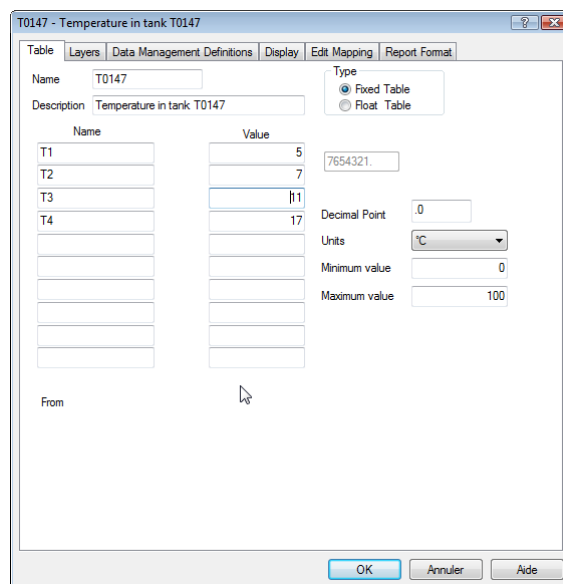

Figure 3.41 On the **Table** tab you type the names of the individual temperature gauges and their initial values.
- Type in the names and values shown in Figure 3.41.